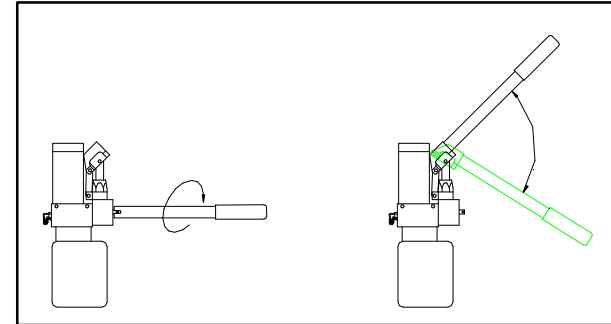

FIGURE 2-10: LIFT OPERATION – PLATFORM MANUAL RAISING
- ✘ Refer to **Figure 2-10**. Insert the pump handle extension onto manual backup pump release valve. Make sure the notches at the end of the handle are fully engaged by the release valve pin. Slowly twist the handle 1/4-turn COUNTER-CLOCKWISE until the lift platform begins to lower.